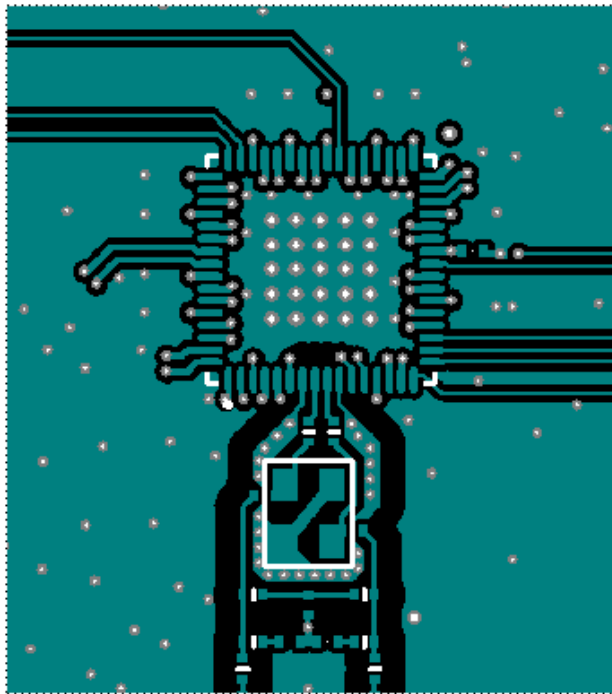
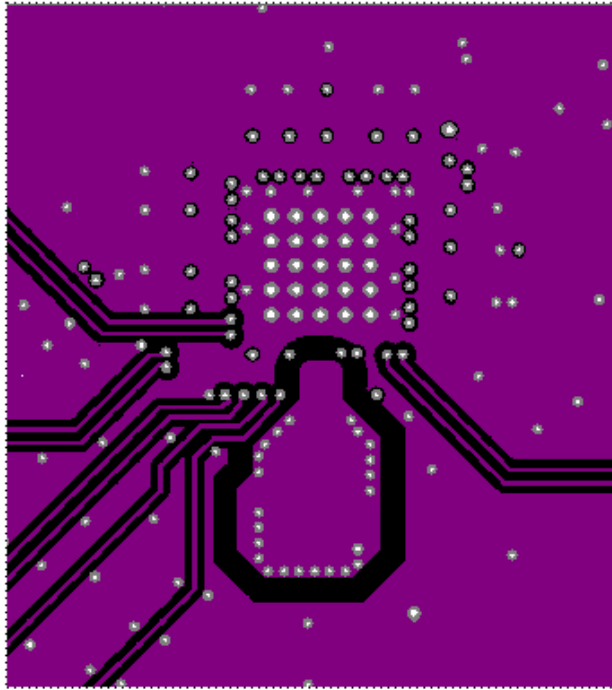

Figure 11.1. 64-pin Si5341 Crystal Layout Recommendations Top Layer (Layer 1)
Figure 11.2. Zoom View Crystal Shield Layer, Below the Top Layer (Layer 2)
Figure 11.1 64-pin Si5341 Crystal Layout Recommendations Top Layer \(Layer 1\) on page 47 is the top layer layout of the Si5341 device mounted on the top PCB layer. This particular layout was designed to implement either a crystal or an external oscillator as the XAXB reference. The crystal/ oscillator area is outlined with the white box around it. In this case, the top layer is flooded with ground. Note that this layout has a resistor in series with each pin of the crystal. In typical applications, these resistors should be removed.
3. Connect the crystal's GND pins to the DUT's X1 and X2 pins via a local crystal shield placed around and under the crystal. Make sure that X1, X2, and both crystal ground pins do NOT connect to the pcb ground. See Figure 11.1 64-pin Si5341 Crystal Layout Recommendations Top Layer \(Layer 1\) on page 47 for an illustration of how to create a crystal shield by placing vias connecting the top layer traces to the shield layer underneath. Note that a zoom view of the crystal shield layer on the next layer down is shown in Figure 11.2 Zoom View Crystal Shield Layer, Below the Top Layer \(Layer 2\) on page 48.